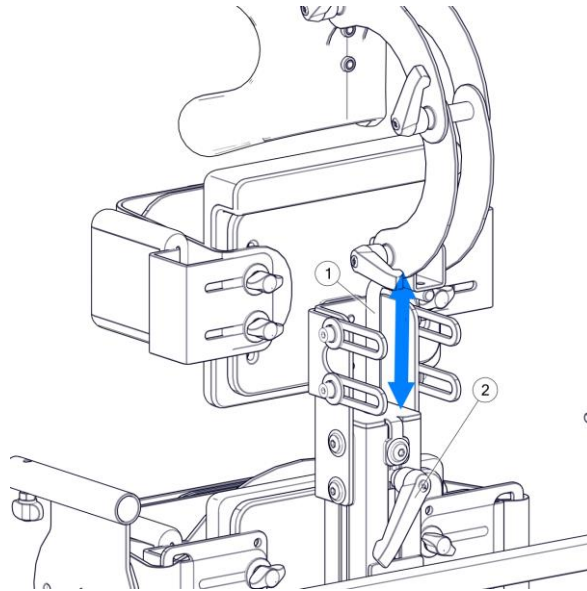

Figure 20
8.2. Headrest for supine position – Figures 20 and 21